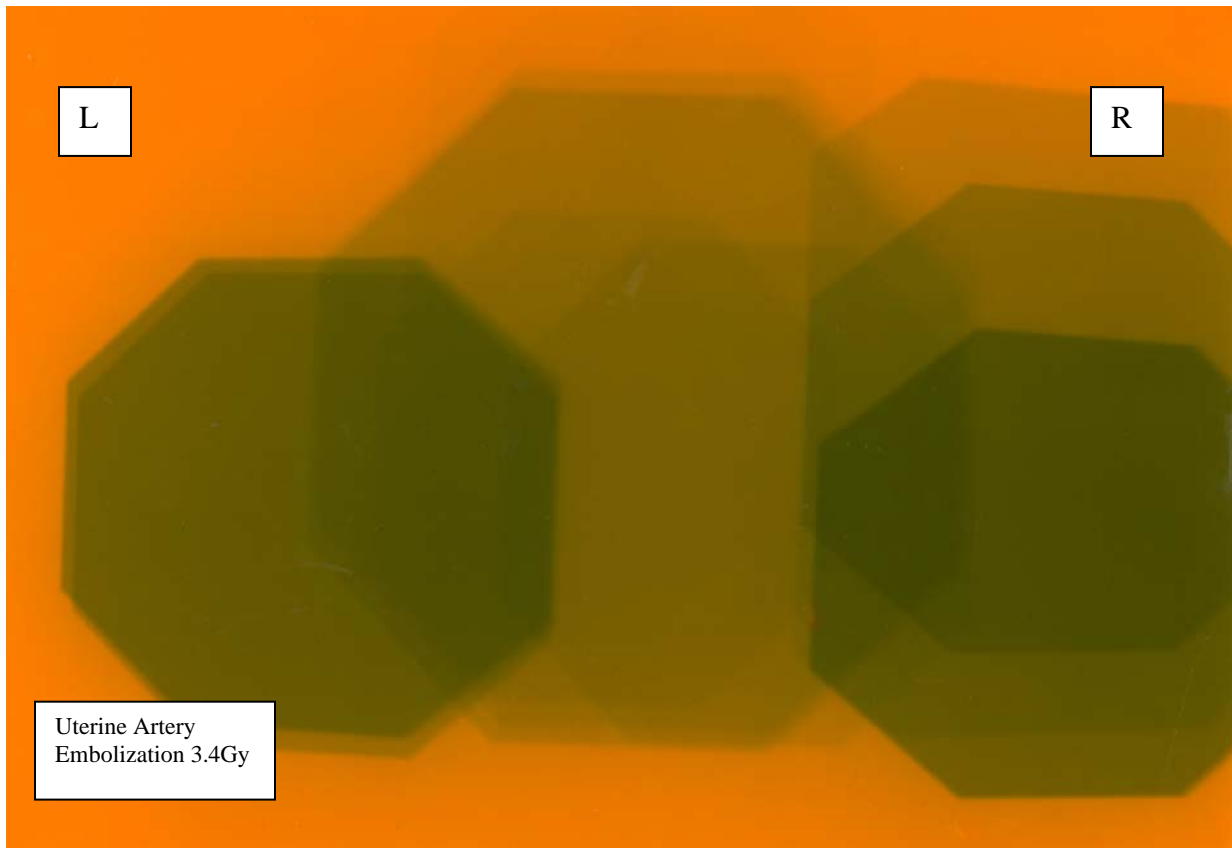

Figure 1: An exposed film with patient's orientation with respect to the film
- 1) Exposed sheet of GAFCHROMIC® XR-RV2 dosimetry film from a known lot number. Note the L and R denotes the orientation of the patient with respect to the film (See figure 1)
1. The protocol assumes that the patient has undergone the interventional procedure with a sheet of GAFCHROMIC® XR-RV2 dosimetry film placed close to the surface of the skin exposed to the radiation (see figure 3.). Common practice is not to put the film in direct contact with the skin, but separated by one or more sterilized surgical sheets. The film must be marked to indicate its orientation with respect to the patient, i.e. left-right, head-foot as indicated in Figure 1.